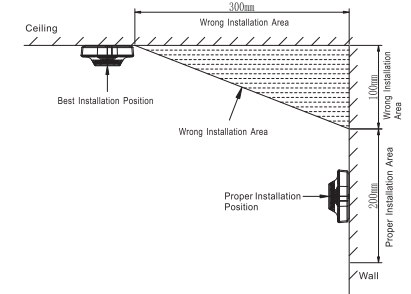

Figure 2-1
- It shall be at least 300mm horizontally away from the wall corresponding to the ceiling and 100mm away from wall corner, as shown in Figure 2-1.